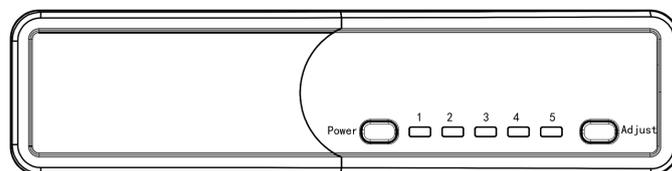

Fig. 1
- The display unit for controlling the equipment is located in the refrigerator compartment. (Fig. 1).